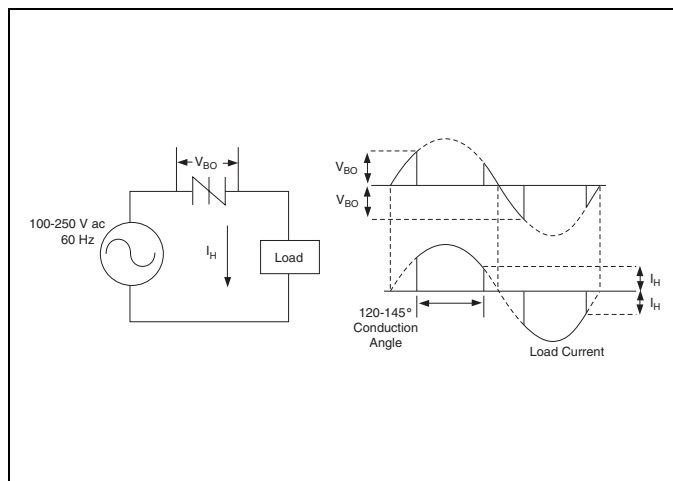

Figure E9.14 Basic Sidac Circuit
- See Figure E9.14 for clarification of sidac operation.